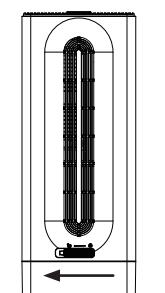

Figure 4
5. Then place the reservoir back in the device and slide the latch to the position - . When placing the tank back in the unit, make sure that the vertical protruding part of the tank is positioned as shown in Figure 4.